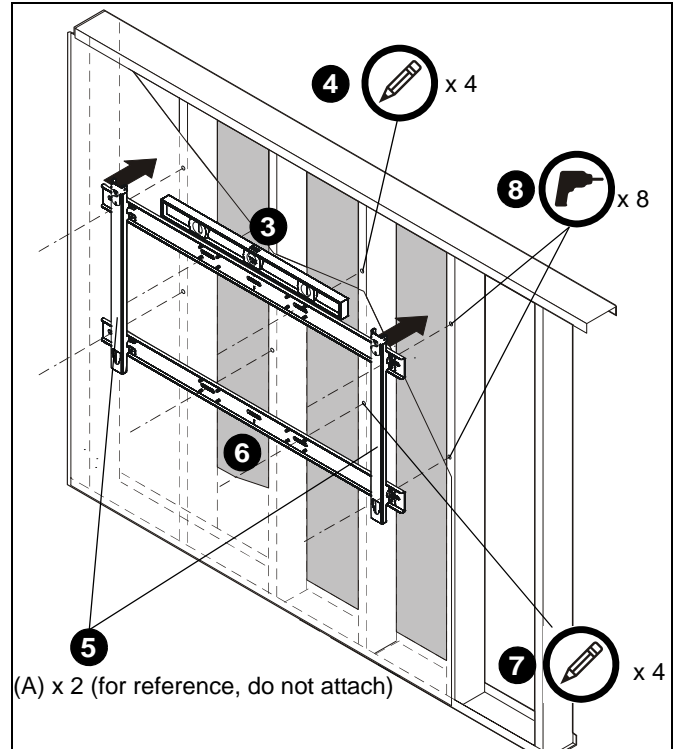

Figure 2
2. Raise upper horizontal bracket (B) against wall in desired installation location. (See Figure 2)
4. Using a pencil, or similar marking tool, mark the location of mounting holes in base onto surface. (See Figure 2)
5. Hang two vertical brackets (A) from upper horizontal bracket to determine mounting position for lower horizontal bracket. (See Figure 2)
6. Raise lower horizontal bracket (B) against wall in desired installation location using vertical brackets to determine
distance from upper horizontal bracket. (See Figure 2)
7. Mark the location of mounting holes for the lower horizontal bracket in base onto surface. (See Figure 2)
8. Drill eight 1/4" pilot holes at marked locations. (See Figure 2)